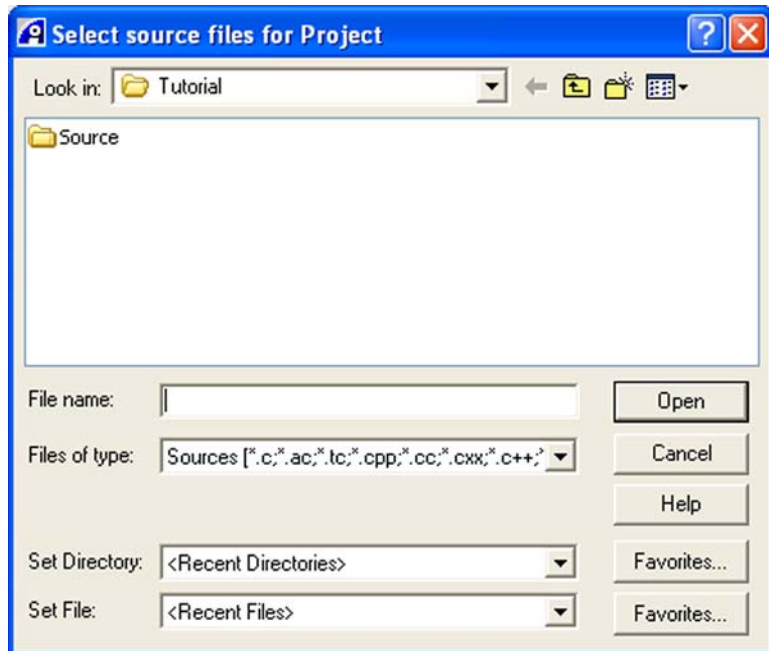

Figure 5-55. RealView Select Source Files for Project Dialog
6. Again, click the navigate button (to the right of **Sources to build from**) to open the Select Source Files for Project dialog box (Figure 5-55).